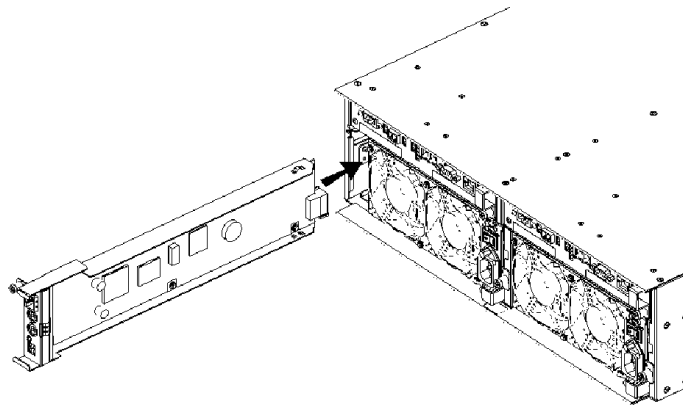

Figure 3-13. Installing the Replacement SVP Service Processor.
4. Install the replacement SVP Service Processor. See Figure 3-13.